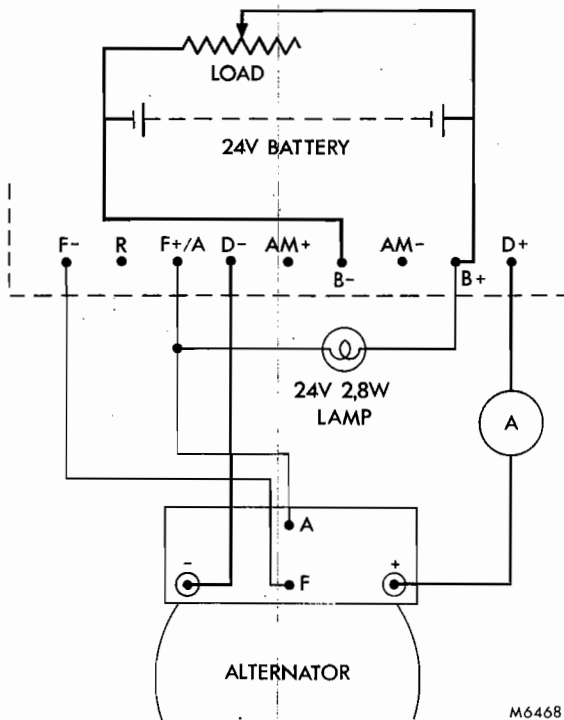

FIG. 3. TEST BENCH CIRCUIT
2. Connect the alternator as shown in Fig. 3